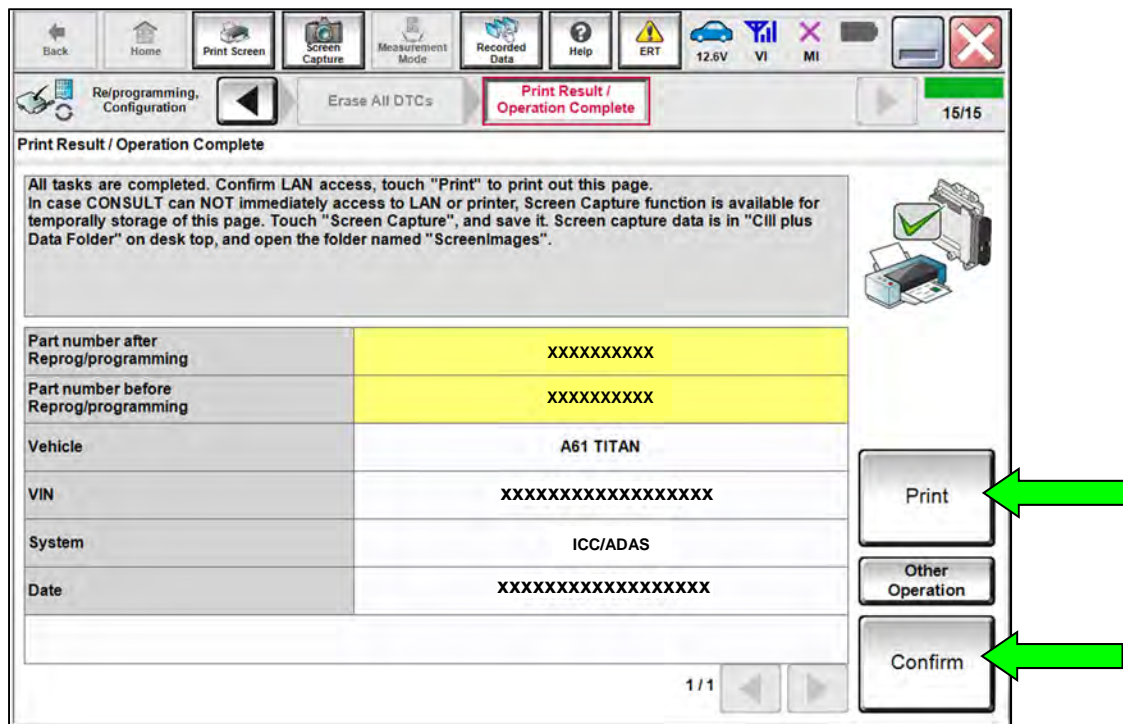

Figure 21
HINT: When the entire reprogramming process is complete, the screen in Figure 21 will display.
36. Print a copy of the screen below (Figure 21) and attach it to the repair order for warranty documentation.
HINT: The vehicle’s “NEW ICC/ADAS PART NUMBER” can be helpful to confirm the applicable “NEW (Latest Type ID)” (refer to **Part Number After Repro/programming** from Figure 21 on page 17).